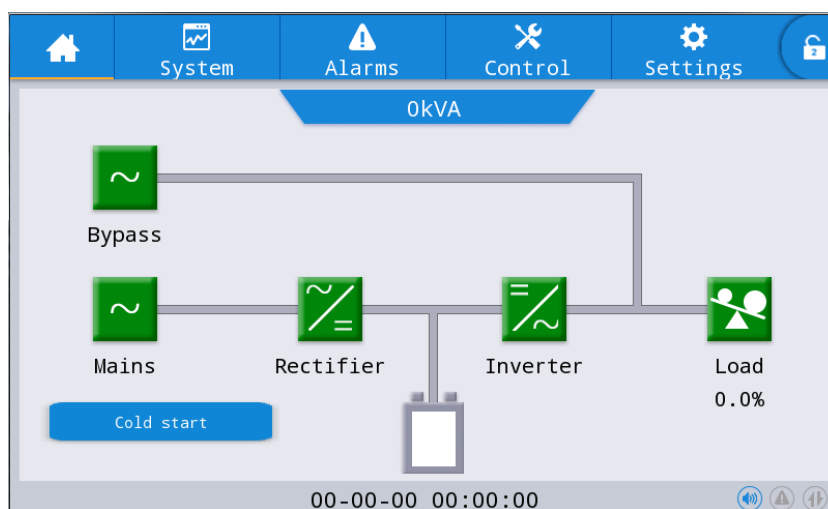

Fig. 5-1 The cold start button in LCD
3. After that, press the button for cold start on the LCD, as shown in Fig. 5-1. The UPS will start up and the system transfers to battery mode in 30S.